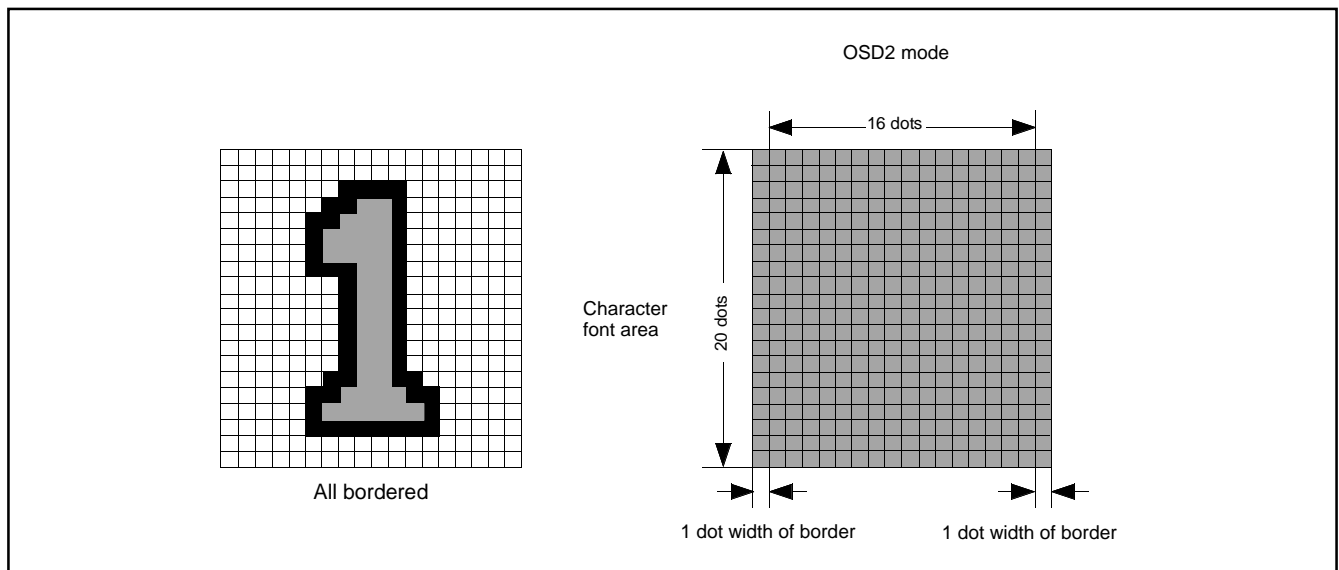

Fig. 8.10.21 Example of Border Display
- Notes 1 :** The border dot area is the shaded area as shown in Figure 8.10.21.